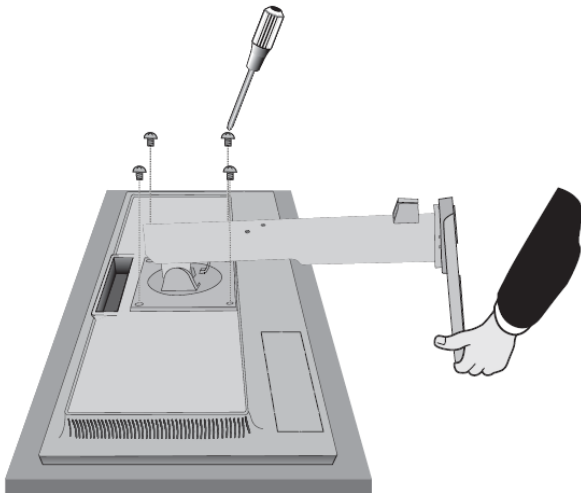

Figure S.1
3. Place monitor face down on a non-abrasive surface (Figure S.1).
4. Remove the 4 screws connecting the stand to the monitor (Figure S.1).